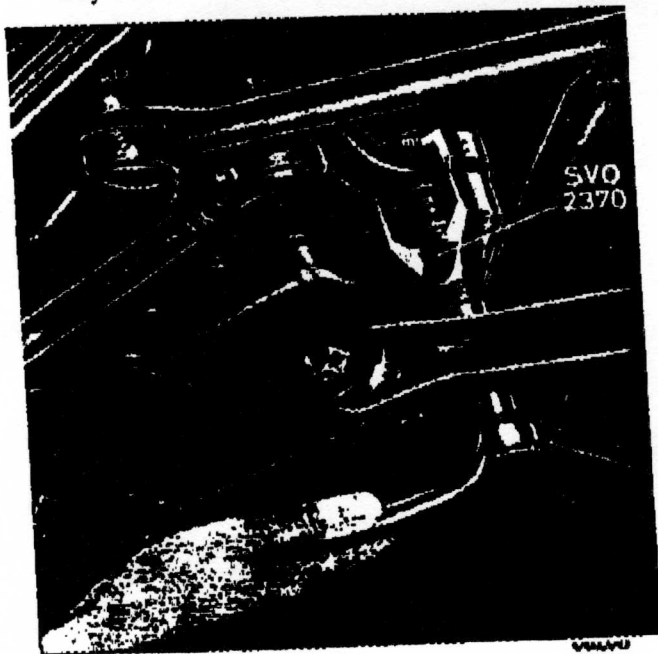

Fig. 28. Removing pitman arm.
4. Screw off the nut for the pitman arm. Pull off the pitman arm from the pitman arm shaft with puller SVO 2370 (Fig. 28). On PV 444-445, SVO 2195 can also be used.